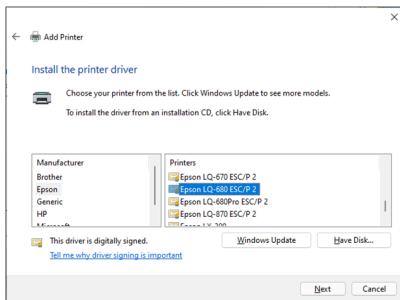

Figure 26
10. Windows will attempt to detect the **Printer Driver** automatically. If Windows fails to detect the proper **Printer Driver**, select the **Printer's Manufacturer** and **Model** from the **Install the Printer Driver** screen that appears. Click **Next**.(Figure 26)